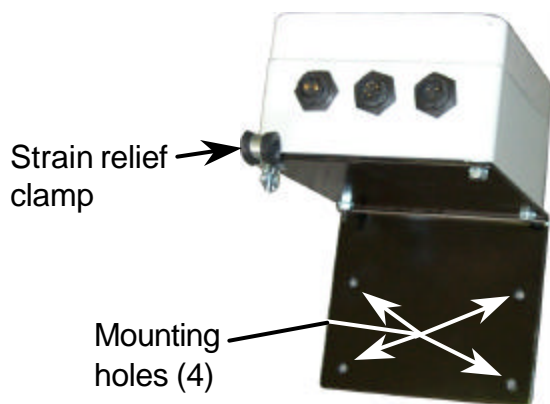

Figure 6a
2. Anchor the Receiver bracket to the wall using four (4) suitable No. 10 screws in appropriate wall anchors. (see figures 6a & 6b)